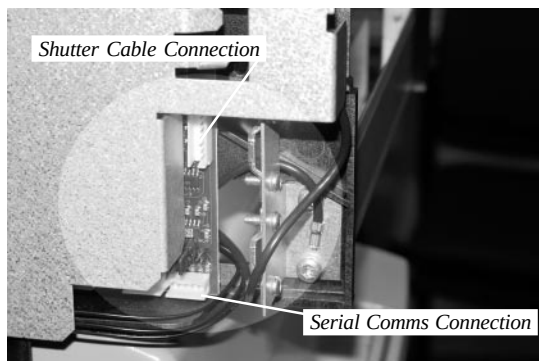

Figure 3-41. Connect the serial communication cable and shutter cable to the dispensing mechanism to the connections shown above.
- 3 Refer to Figure 3-41. Connect the serial communication data cable and the shutter cable to the connectors on the hot (left) side of the dispenser. For the serial data cable, BE SURE to use the forward-most connector as shown. The plugs are keyed to en-